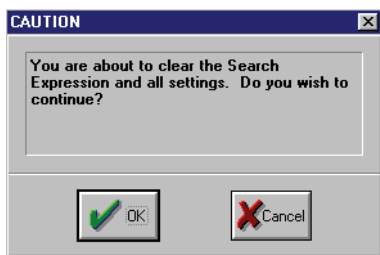

Figure 7-11: Clear Search Fields Confirmation Window
1. To clear all fields, click on the  button. To verify the clear operation should be performed, a confirmation window appears (see Figure 7-11).